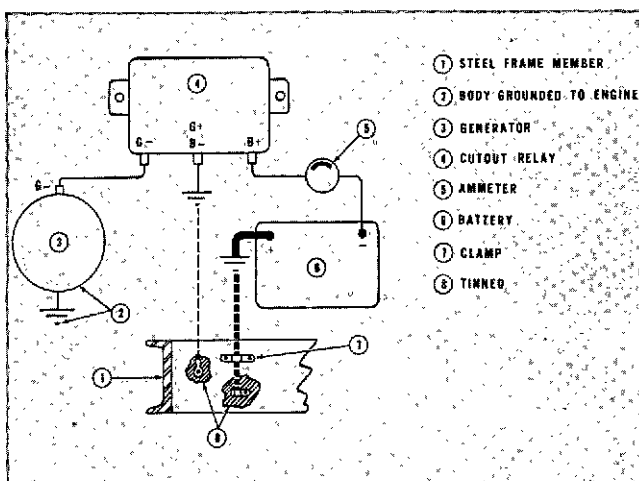

Fig. 13-2-2, N11305. Basic generator wiring diagram cut-out relay
3. The basic wiring diagram for a one-terminal, third-brush current-controlled generator used with a cut-out relay is shown in Fig. 13-2-2. Equipment that requires low generator output, such as shovels and power units, will sometimes have this type of generator and cut-out relay.
4. This type of equipment will give satisfactory service provided the G+B— terminal in the relay is properly grounded to the same frame member used to ground battery, as shown in Fig. 13-2-2, and provided the generator is used only for battery charging.